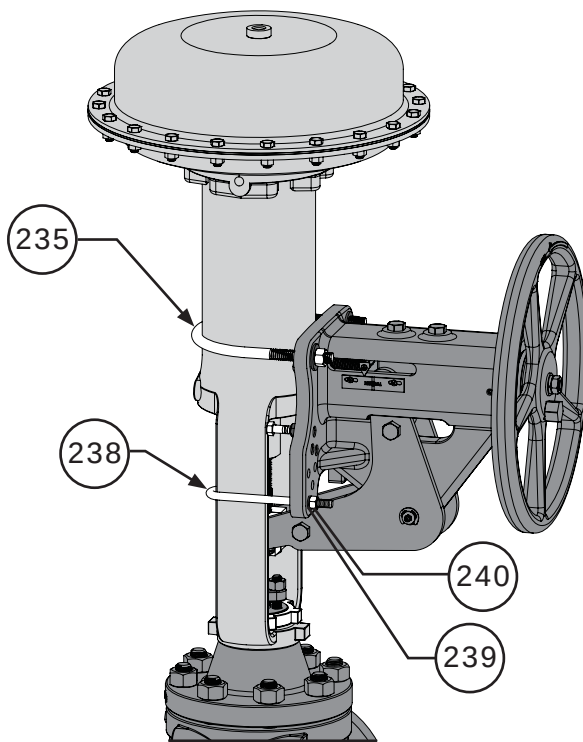

Figure 47 Mounting Hook Installation
- 10 Install the mounting hooks (Key 238) into the holes of the handwheel body allowing for the most secure positioning to hold on to the legs of the actuator yoke. Install the lock washers (Key 239) and hand tighten the hex nuts (Key 240) onto the mounting hooks, make sure to adjust the mounting hooks evenly so that the side-mounted hand wheel body is positioned square and flush to the actuator yoke. Refer to Figures 47 & 48.